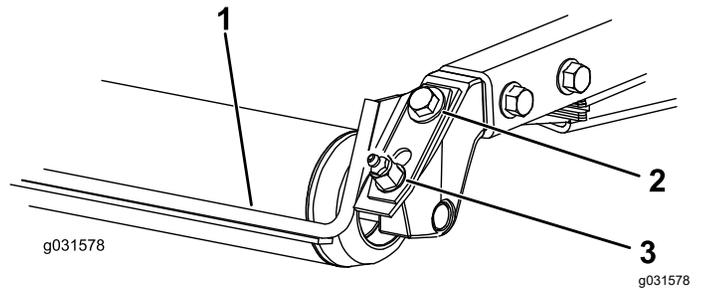

Figure 15
1. Loosen the grease fitting and the mounting screw (Figure 15).